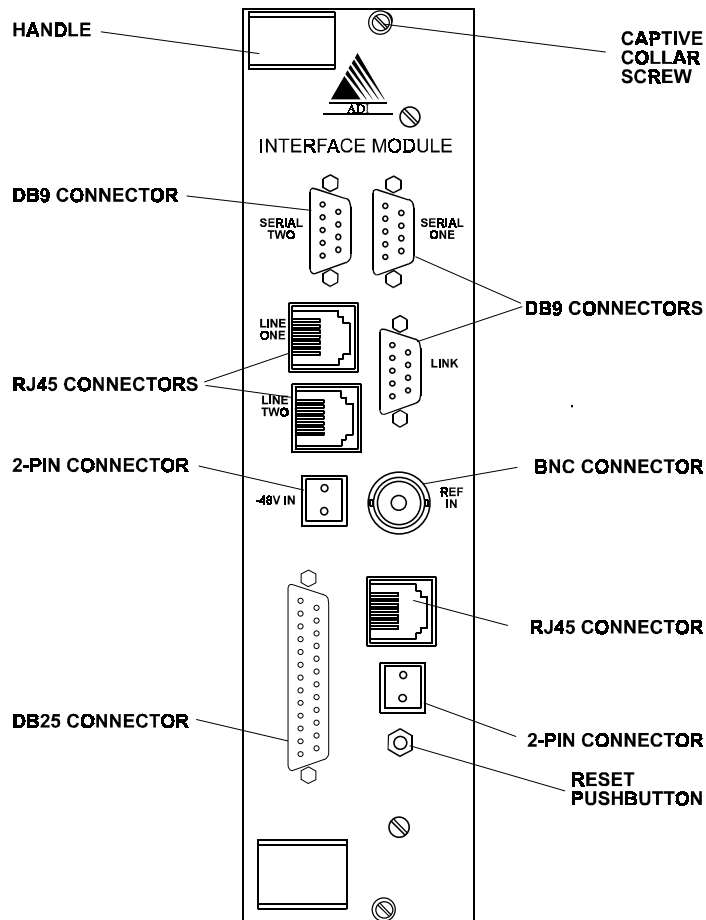

Figure 2-7 Interface Module Front Panel
The Interface Module (IM) provides connections for the DRB-25 external interfaces. The Front Panel of the Interface Module is shown in Figure 2-7 and the connector functions listed in Table 2-4. Connector pin-outs are listed in section 3.6.5.